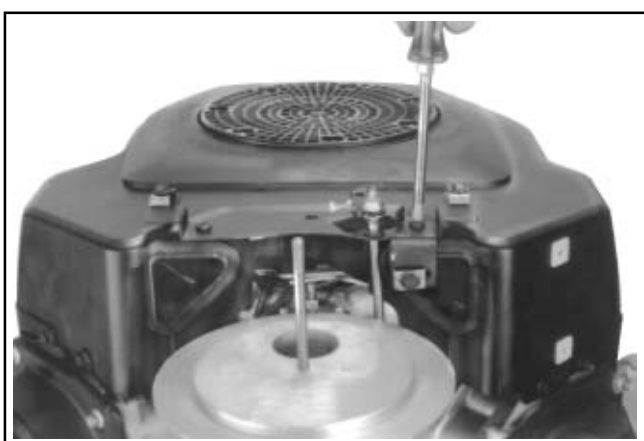

Figure 9-11. Removing Control Panel.
3. Disconnect the throttle control shaft from the throttle control bracket. See Figure 9-11.